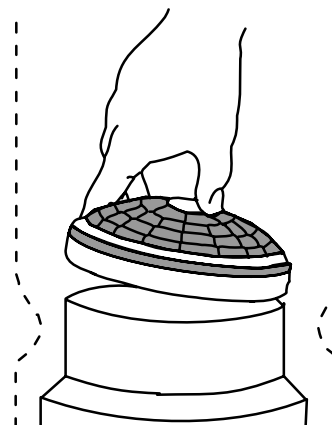

FIG. 1
1. Remove the top cap and pull out the cloth filter. Check to see that the dome filter has not shifted during shipping (Figure 1).